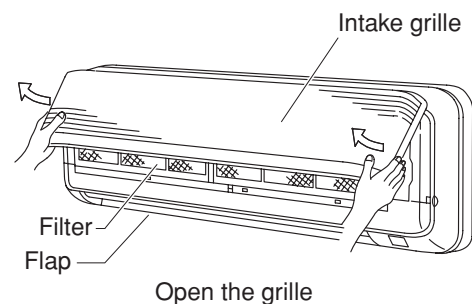

Fig. 3-22
- (1) Lift up on both sides of the air-intake grille to open it. (Fig. 3-22)
- (2) Remove the filter. (Fig. 3-22)